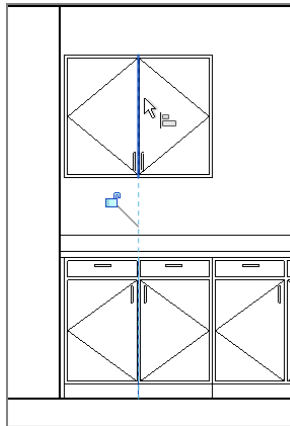

FIGURE 9.65: Adding the wall cabinet
3. Place the wall cabinet in the model, as shown in Figure 9.65. (Don't worry too much about aligning it to the cabinet below. You'll align it in elevation.)